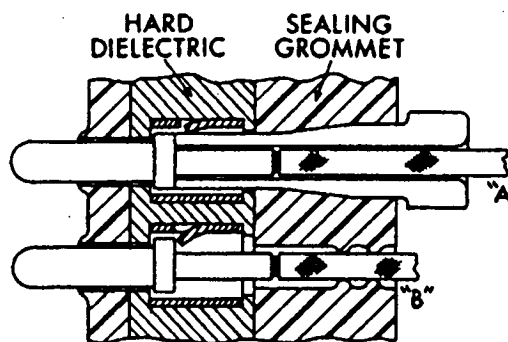

Figure 1
E. Exert firm but gentle and continuing pressure on tool until tip enters hard dielectric portion of connector and stops against contact shoulder. See view "A", Figure 1.
F. At this stage of removal, tip of the tool will have pushed the retention clip back into the clip recess. "B" of Figure 1 illustrates retention clip in normal position.